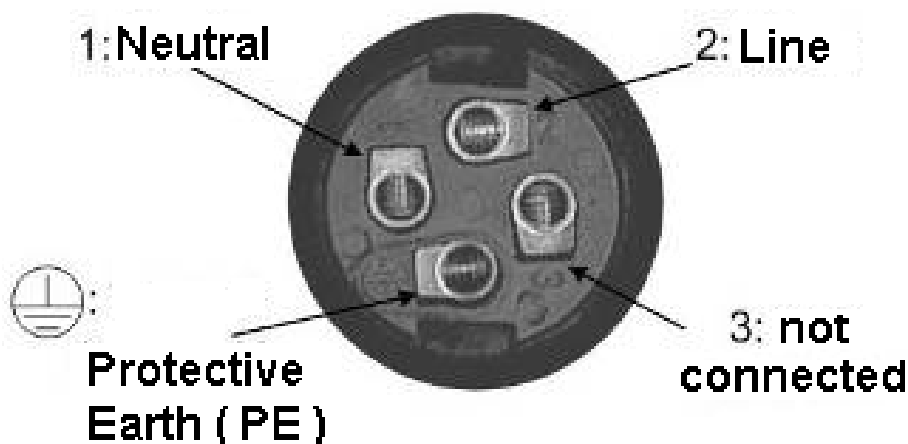

Fig. 11 Binder connector
- 2) Enter the wire in the Binder counterpart connector provided, taking care to respect the indications present on the plastic near the terminal blocks (as indicated in Fig. 11): terminal block 1 for Neutral, terminal block 2 for the line, terminal block 3 not connected, and the terminal block identified by the  symbol for the PE earth connection.